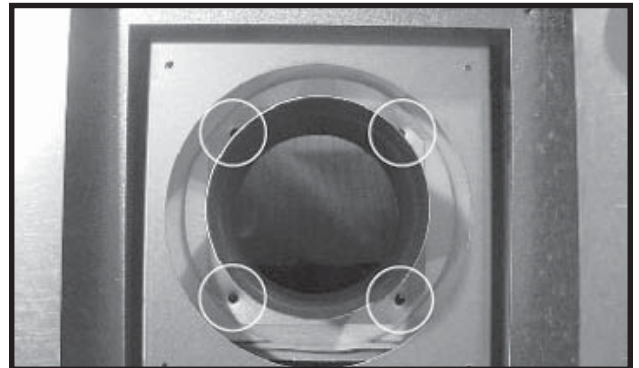

Figure 9 - Remove Screws from Inner Collar
- e. Remove the four screws holding the inner collar to the appliance top. See Figure 9. Remove the inner collar.